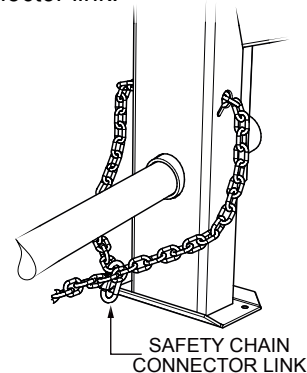

Figure 8. Crossing The Safety Chain
4. Loop (cross) the safety chain (Figure 8) and place under the tow bar. Secure the loop with the safety chain connector link.